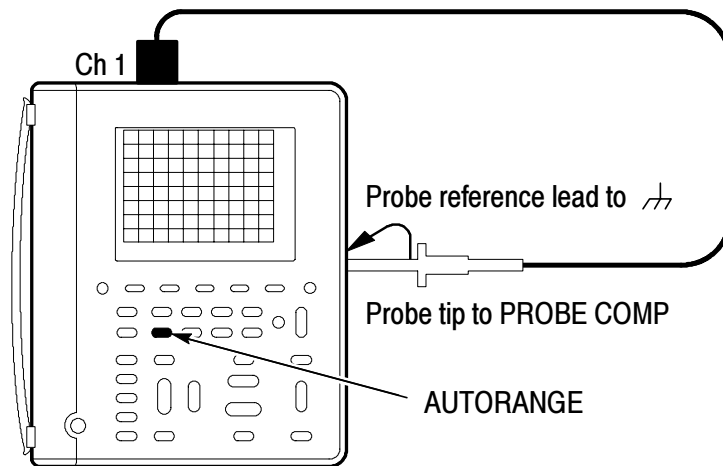

Figure 3: LF Compensation Setup
1. Connect the probe to the Probe Comp signal on your TekScope instrument and then press **AUTORANGE**. See Figure 3.